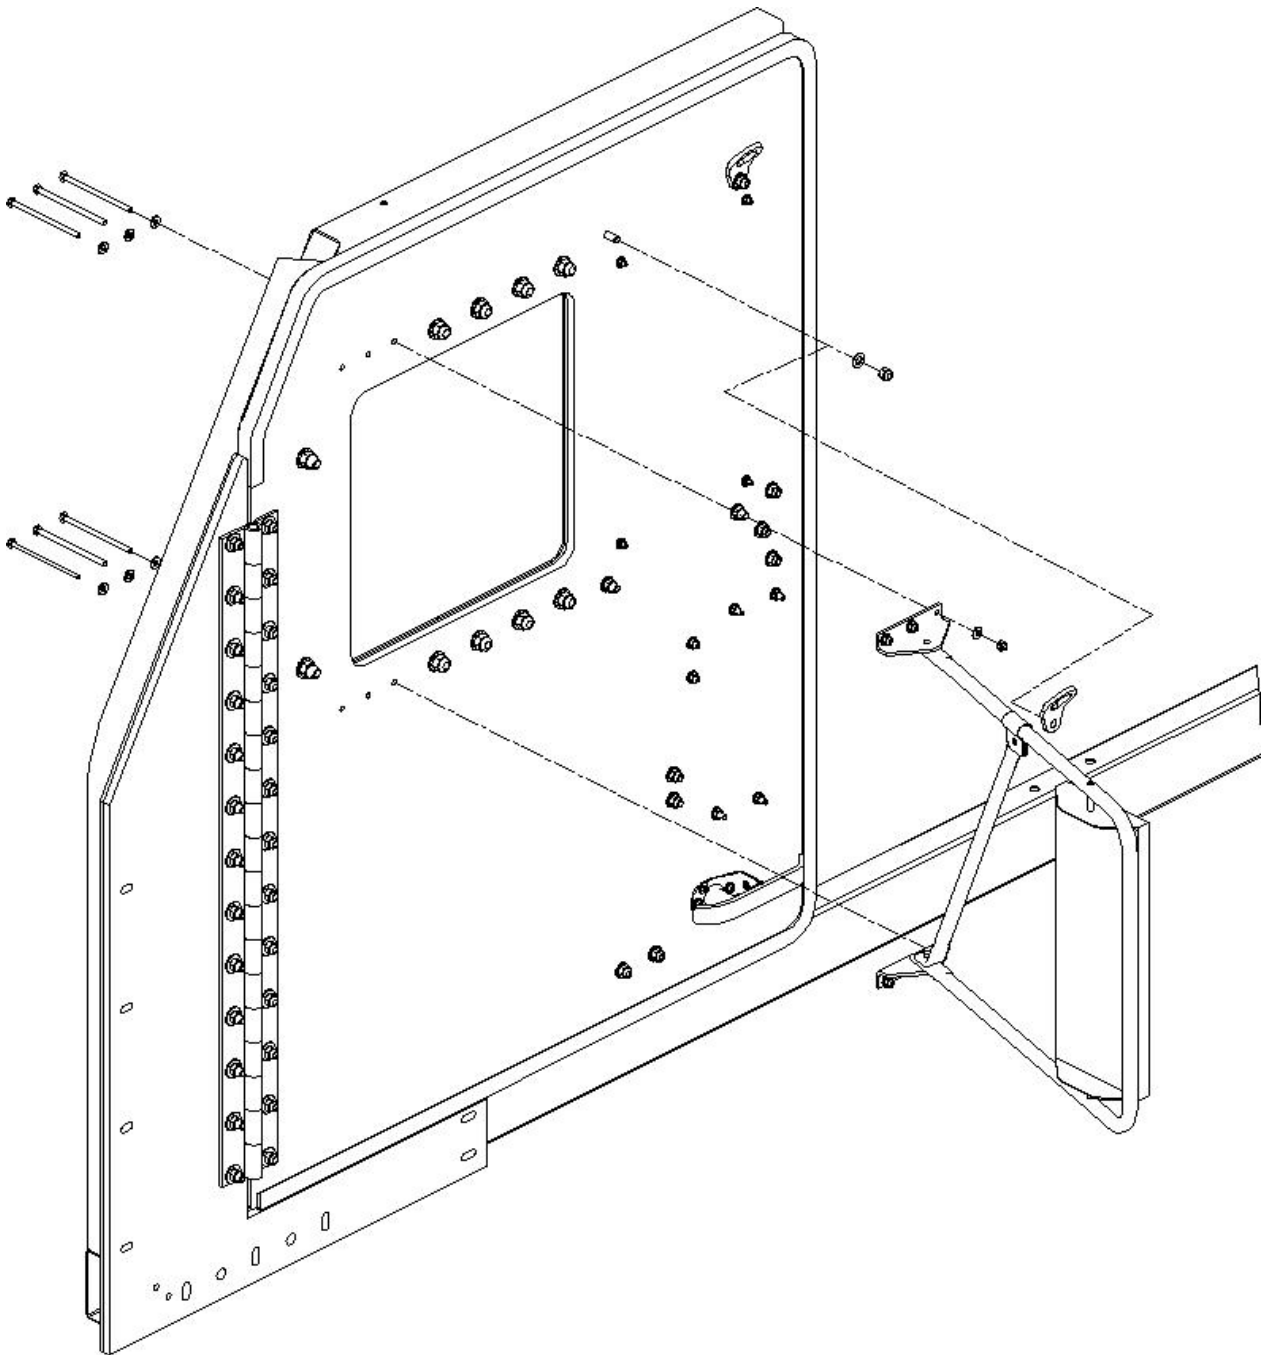

Figure 4-7. Installation of the Mirror Brackets and Mirrors.
18. Install left and right side mirror brackets and mirrors onto doors per TM 9-2320-360-20-2 as shown in Figure 4-7. (Left-side is shown. Repeat procedures for right side.)